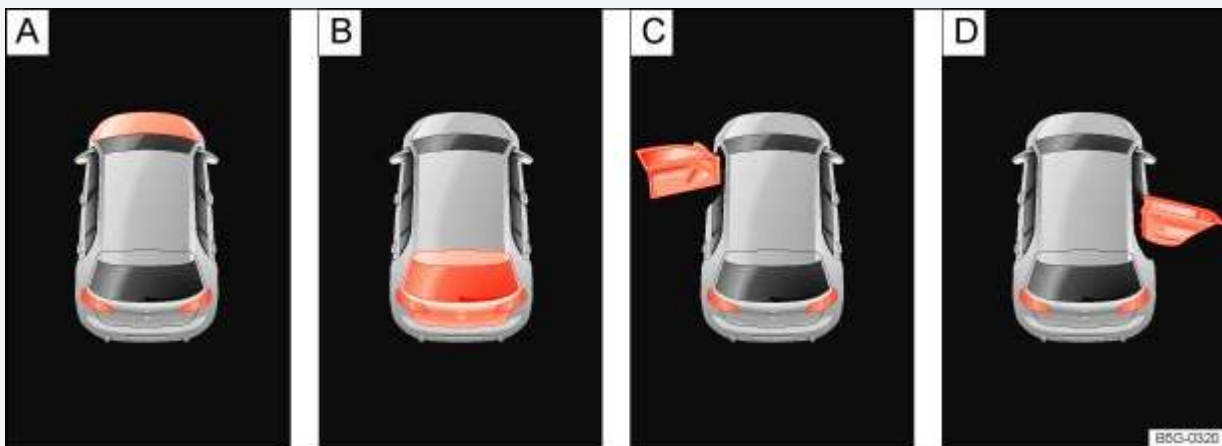

Fig. 13 In the instrument cluster display (color version): : Open engine hood, : Open trunk lid, : Open front driver side door, : Open rear passenger side door.
- Open doors, engine hood, or trunk lid ⇒ *Fig. 12* or ⇒ *Fig. 13*